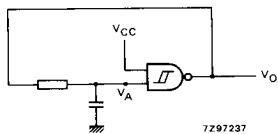

Fig. 16 Relaxation oscillator using HC/HCT132.
HC/HCT132 used in a relaxation oscillator circuit, see Fig. 16.
**Note to Fig. 16**